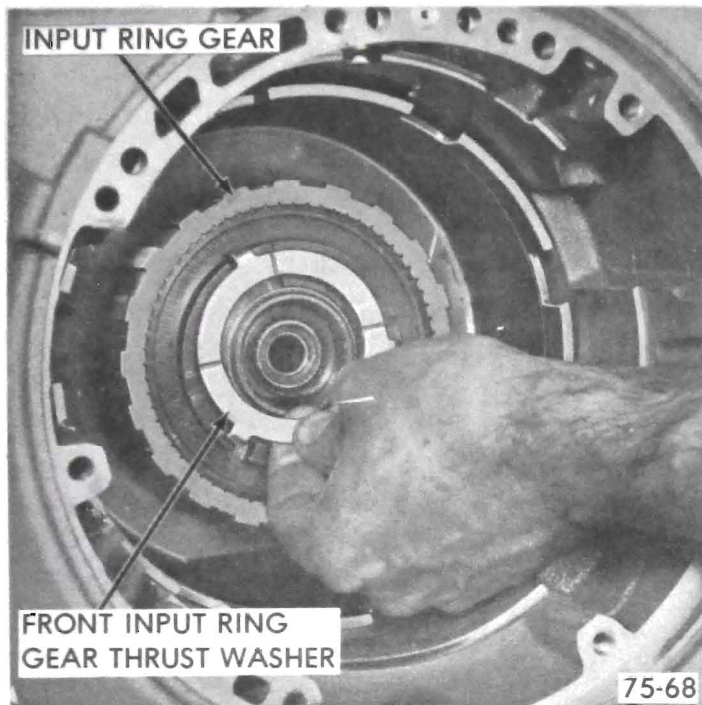

Figure 75-98
1. Remove forward clutch housing to input ring gear - front thrust washer. See Figure 75-98.